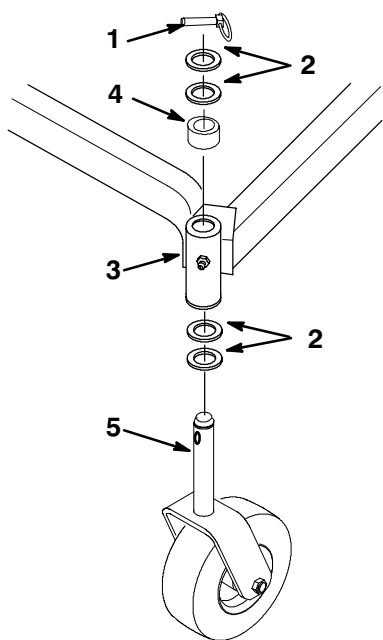

Figure 34
2. Remove the locking pin and thrust washer(s) from the top of the castor wheel fork (Fig. 34).
3. Pull the castor wheel fork out of the mounting tube, leaving the thrust washer(s) and spacer on the bottom of the fork. Remember the location of the thrust washers and spacer on each fork to ensure correct installation, and to maintain a level deck (Fig. 34).
6. Inspect the castor wheel fork for wear and replace if necessary (Fig. 34).
7. Slide the castor wheel fork through the bushings in the mounting tube. Replace the thrust washer(s) onto the fork and secure with the locking pin (Fig. 34).